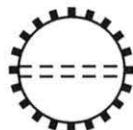

Figure 35. Instrument Tag
6. Determine the type of device indicated by the tag in figure 35.